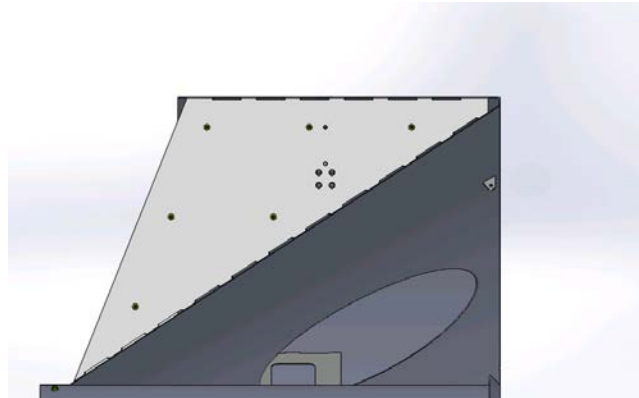

Figure 6: Right-Left Weldment attachment adapter placement
5. Install threaded Male-to-Male Adapters to the baffle on the Right Weldment, 6 places, as shown in Figure 6.